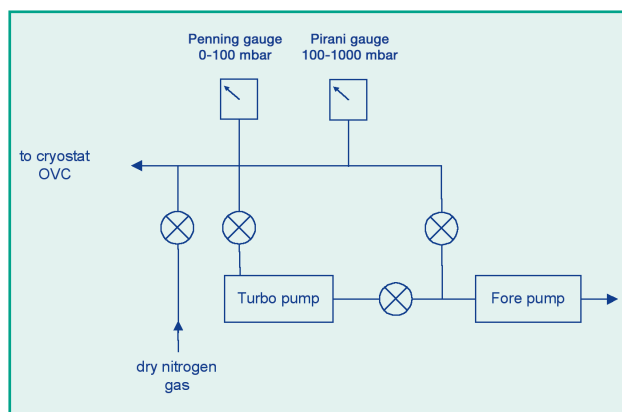

Figure 1 Typical pumping system
- Pumping set assembly as in Figure 1 consisting of a fore pump for rough vacuum; ultimate vacuum 10^{-3} mbar, turbo-molecular pump; ultimate vacuum 4×10^{-9} mbar, gauge for measuring low vacuum; $10^{-1} - 10^{-3}$ mbar, gauge for measuring high vacuum; $10^{-3} - 10^{-6}$ mbar, valves as shown to permit changeover from fore pump alone to a combination of fore and turbo pump. For applications sensitive to oil contamination such as pumping out the vacuum space in spectroscopy instruments or spaces containing high surface area superinsulation, a dry pump is recommended for the fore vacuum. Diaphragm pumps are used in this case by Oxford Instruments. Otherwise, a two-stage rotary vane pump may be used.